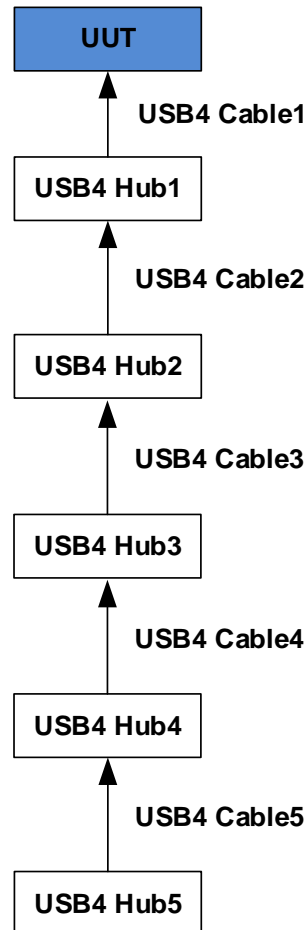

Figure 3-8: UUT (USB4 Host Under Test) connected with 5 USB4 Hubs
1. Connect 5 USB4 Hubs to the UUT as shown in Figure 3-8.